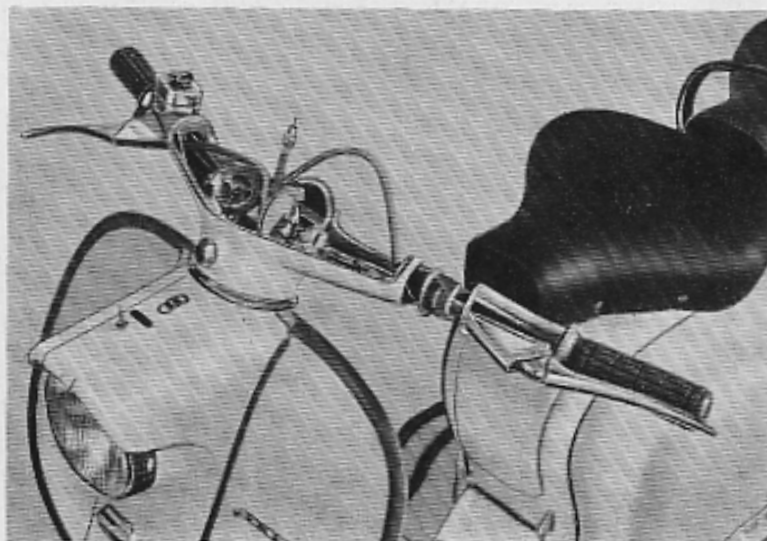

Fig. 32
- 47 After having disconnected the outer ends of the front brake and clutch cables, remove the screw from the clamp holding the cable control pulley (8mm spanner) and withdraw the shaft by tapping with a small punch on the head of the shaft itself; the clutch lever support will slide off when its shaft is withdrawn; while the front brake lever support remains fixed to the handlebar and can be removed by unscrewing the two locking screws placed near the headlamp control switch. To substitute the throttle and gear change control shaft the twist grip rubbers should be removed before loosening the cable control pulley. See Fig. 32.